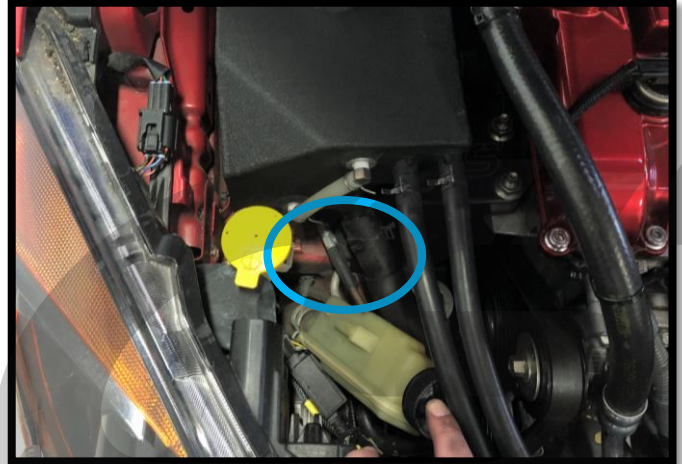

Figure 2g
- g) Lift up on the power steering reservoir to free the tab that holds it to the windshield washer bottle. You can then move it towards the front of the engine bay as shown in **Figure 2g**.
Moving the power steering reservoir allows you to access the lower mounting bolt for the coolant tank through the opening circled in blue in **Figure 2g**.